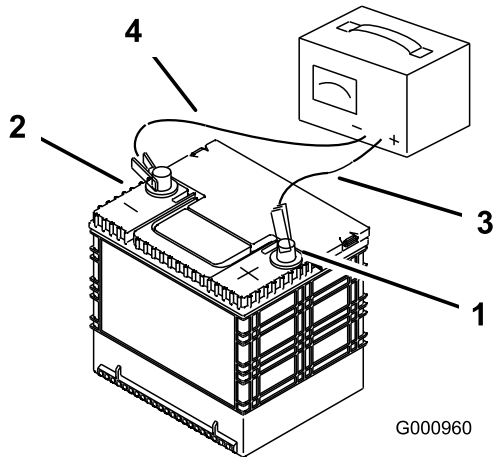

Figure 73
3. When the battery is fully charged, unplug the charger from the electrical outlet, then disconnect the charger leads from the battery posts (Figure 73).